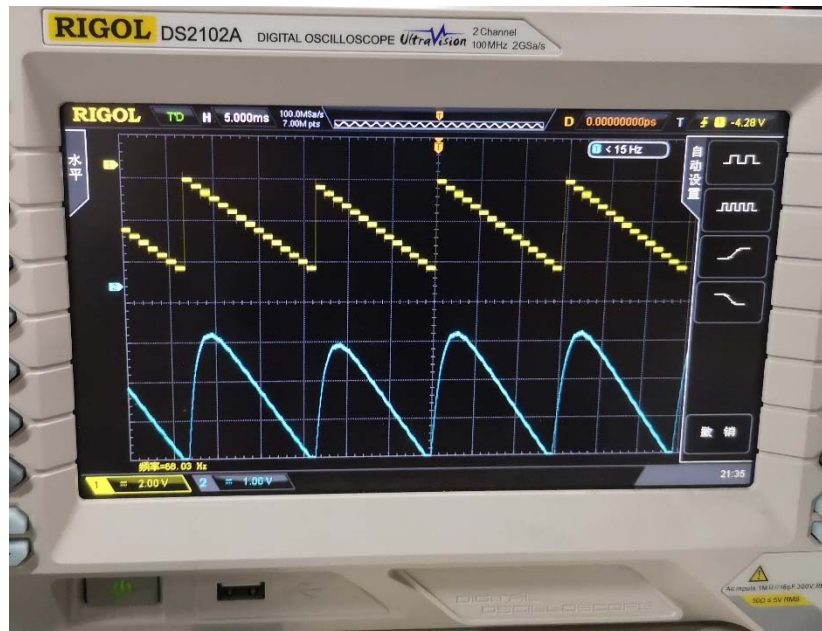

Figure 4 Waveform when 163 is connected to DAC0832
- 3) From figure1, it seems that my waveform receives some interference. The reasons might be various. To figure out, I connect 74LS163 to DAC0832, and get figure 4.